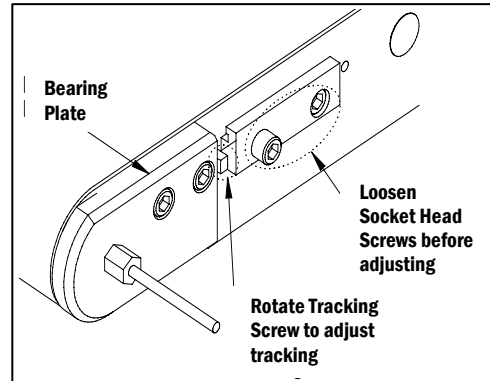

Figure 1
a. Loosen all four 5/16" Driver Assembly Screws (two on each side) one-half turn (**Figure 1**).